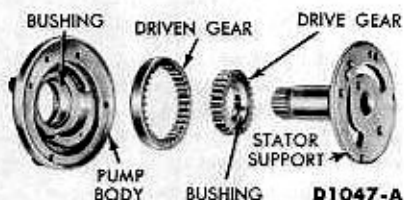

FIG. 16—Front Pump Disassembled
4. Refer to Fig. 16 for a disassembled view of the front pump. Inspect the pump body bushing, drive gear bushing, gear pockets, and crescent for scores.